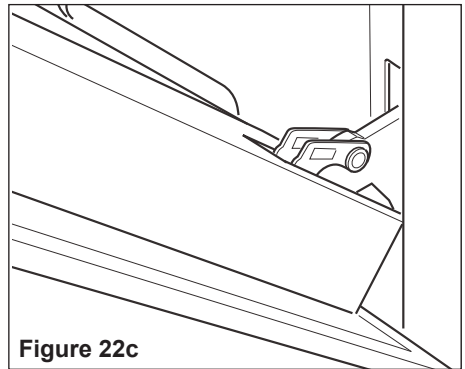

Figure 22c
1. Make sure the door is locked open (see fig. 22c).